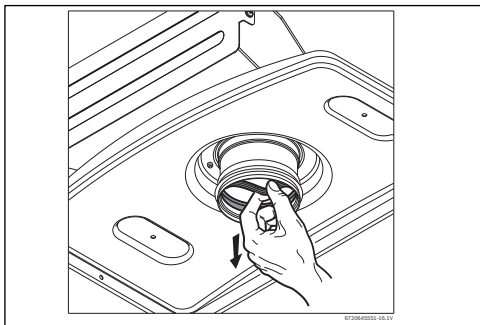

Fig. 5 Condensing appliances only (C1050ES, C1210ESC, C1210ES)
- ▶ Remove inner seal, see Fig. 5.